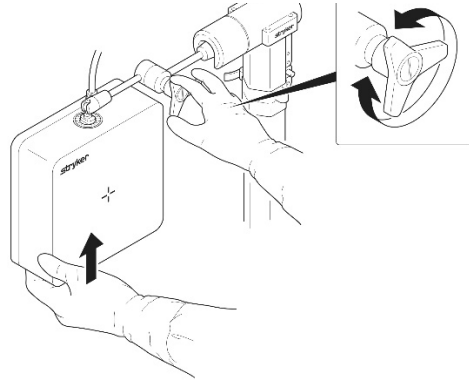

Figure 4. Positioning the Field Generator
3. While securely holding the field generator with one hand, loosen the knob on the mounting arm with the other hand to allow it to articulate. Maneuver the field generator to the desired position relative to the patient (Fig. 4). Securely tighten the knob on the mounting arm until it is entirely fixated. Confirm fixation by slowly removing support of the field generator and confirming it remains in position. If the field generator begins to move, regain support and tighten the knob on the mounting arm further until the mounting arm fixates the field generator position.